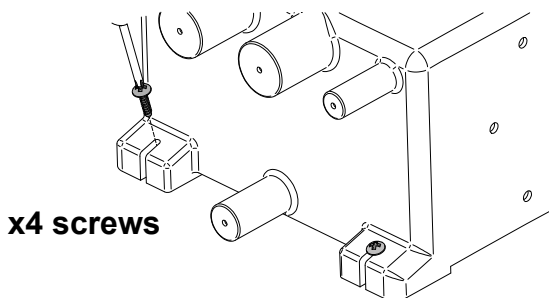
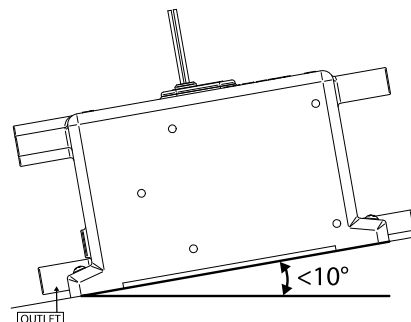

Figure 5 Securing The Tank
Figure 6 Maximum Possible Angle of Installation
| Fig. 5      | Securing the Tank   |
| Fig. 6      | Maximum Possible Angle of Installation  |
**Step 2:** The tank **must be** secured using 4 appropriate screws, through the feet of the tank as shown in Figure 5. **NOTE:** The angle of the tank **must not** exceed 10° (Figure 6). **NOTE: Do not screw directly to the hull – MUST** be mounted on a bulkhead or an additional board.